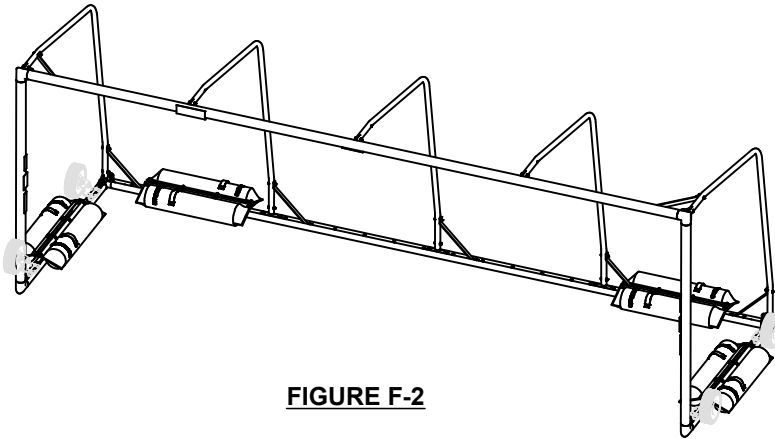

FIGURE F-2
2. Lay the sandbags in pairs on either side of the frame as shown in Figure F-2.